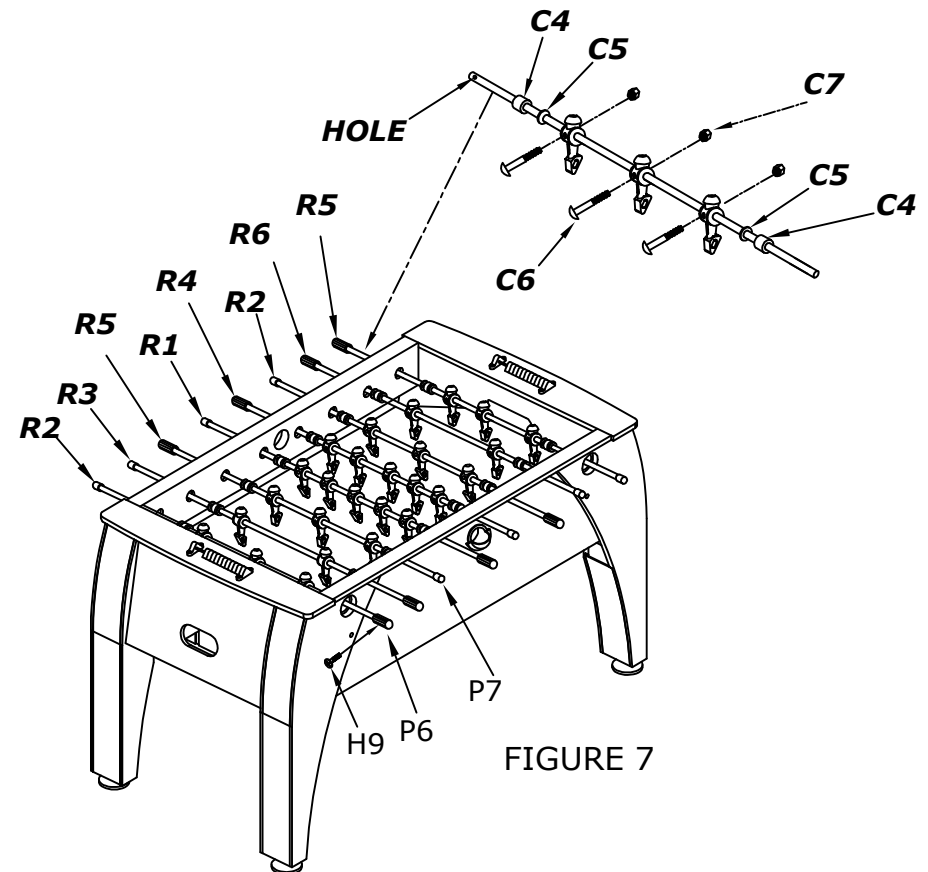

FIGURE 7
11. Insert the player rods **C1&C2&C3** through one side panel, then insert players **C8&C9**, rubber bushings **C4**, plastic washers **C5** through the rod, then insert the player rod through other side panel, attach the players **C8&C9** with bolts **C6** and nuts **C7**. See **Figure 7**.